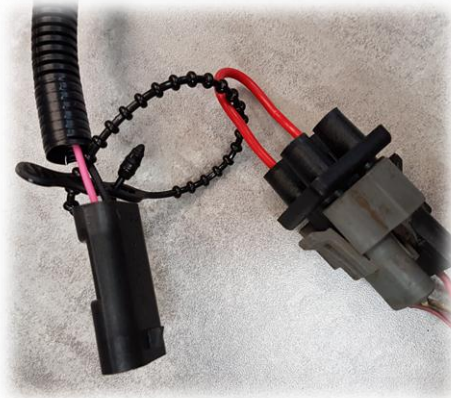

Figure 6 – Black and Gray Ignition Coil connectors connected to coil jumper connector
b) **1992-1995 LT1 Only:** Connect your original LT1 ignition coil connectors (Black and Grey) to the provided ignition coil jumper connector as seen in Figure 6.